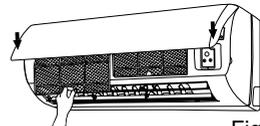

Fig. 23
(3) Mount the air filter properly along the arrow direction in Fig.23, and then close the panel cover.